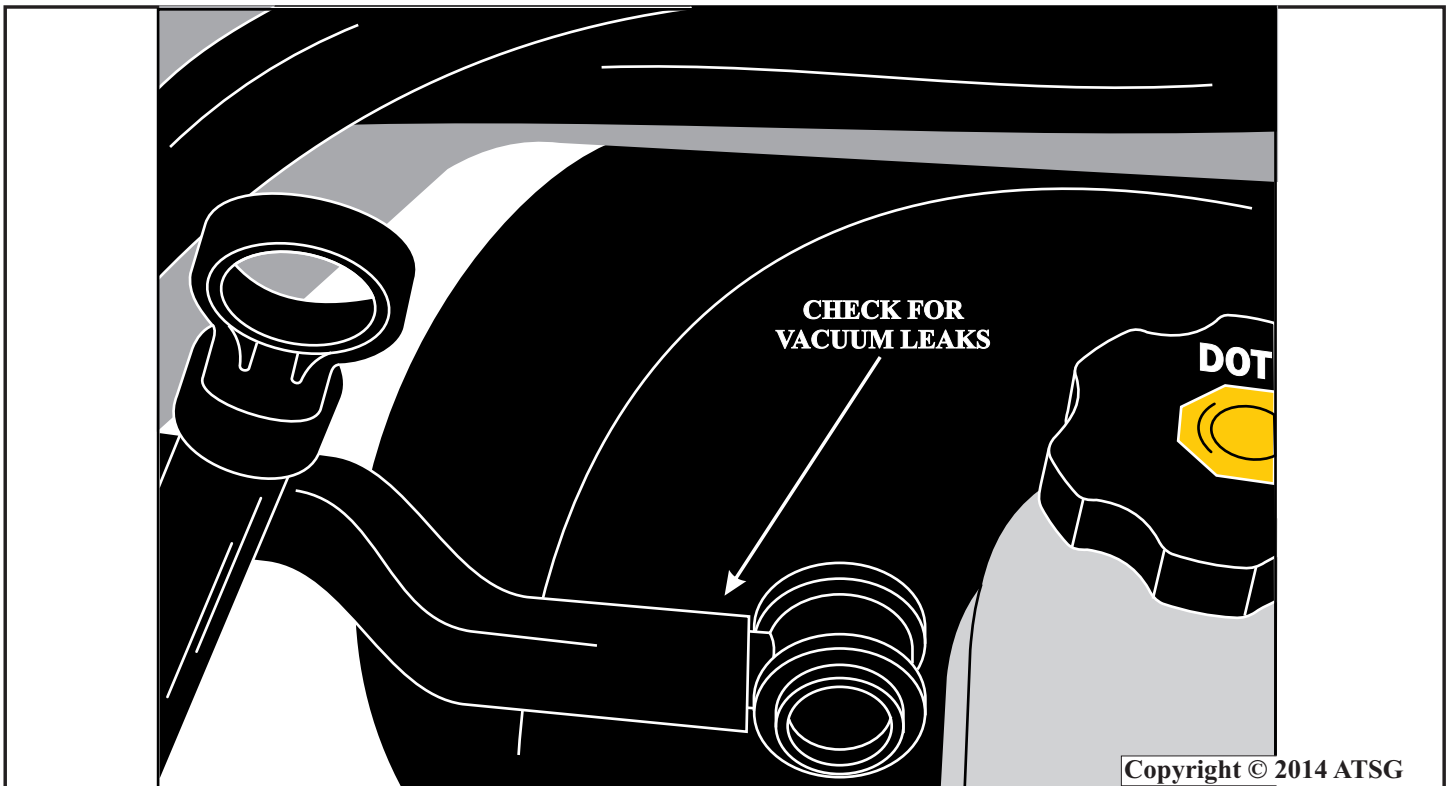

Figure 6
- 9 - Correct any vacuum leaks that exist, use a smoke machine if the leak is not obvious, Figure 6.